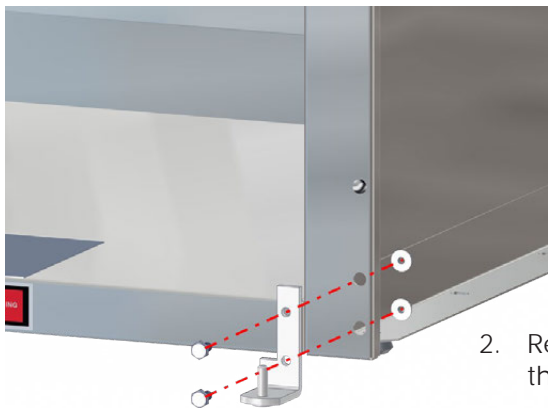

Fig. 59: Remove Bottom Hinge
2. Remove the nuts that fasten the bottom hinge to the unit and remove the screws and bottom hinge (Fig. 59).